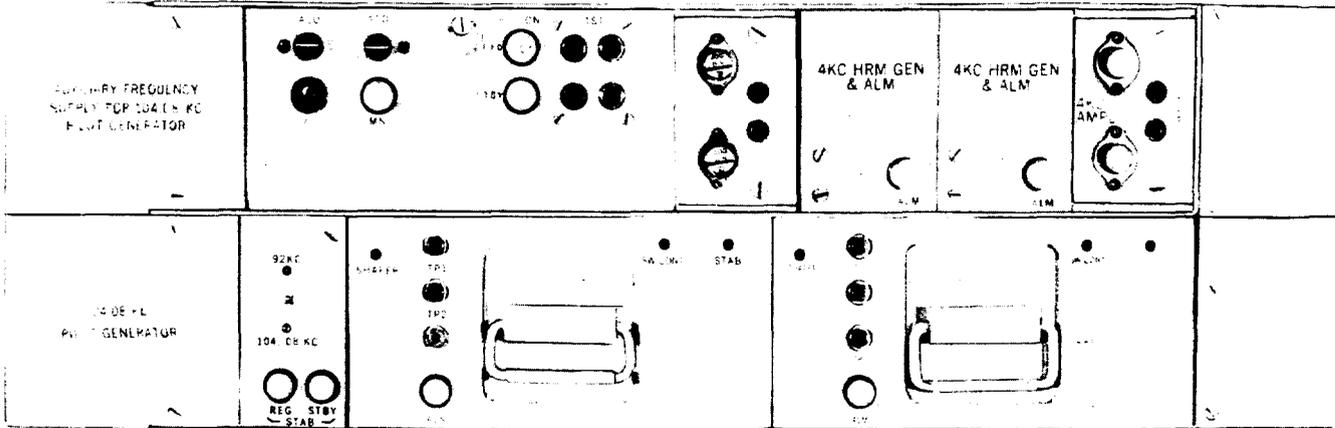

Fig. 1—104.08-kHz Pilot Supply J68857W
**Pilot Supply J68857W:** This pilot supply (Fig. 1), used primarily in LMX-1 applications, consists of an auxiliary frequency supply panel and a List 1 J68857S pilot supply. Two 4-kHz input signals are supplied to the auxiliary frequency supply. The 204-kHz and 100-kHz signals from the 4-kHz harmonic generators are filtered and applied to two identical pilot generators. The pilot generator divides and combines the incoming 204-kHz and 100-kHz signals to produce the 104.08-kHz pilot signal. The pilot signal is amplitude-stabilized and applied to an automatic protection switch which provides an automatic transfer to the standby generator in case the regular generator fails. The output signal from the switching circuit is supplied to a three-tap resistive primary distribution bus.
Caution: Simultaneous removal of both pilot generator modules (Fig. 1) will cause interruption of the pilot signal.